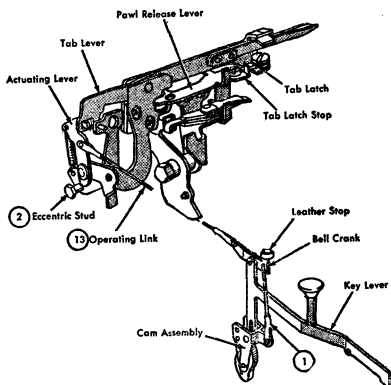

Figure 22. Tabular Mechanism
5. **TKO LINK.** Before adjusting the TKO link, the height of the tab lever should be properly set to clear the margin rack by .010" to .015" as outlined in the *Tabular Mechanism* section, adjustment 2 (Figure 22). Adjust the TKO link so that, with the clutch locked, the left margin stop will con-
The carriage begins to move to the left under tension of the main spring until the tip of the tab lever strikes a set tab stop. This forces the tab lever over to the left and allows it to become disengaged from the tab latch. Now the tab lever begins to restore to its rest position, allowing the pawls to re-enter the escapement rack. The rebound check lever moves into place to the right of the set tab stop as the tab lever is forced to the left. It is now in a position to block any movement of the carriage toward the right as the carriage tends to rebound. When the tab lever restores to rest, it moves the rebound check lever to rest (Figure 22).
1. CAM CLEARANCE. Adjust cam clearance to the power roll so that the cam release lever will drop behind the cam lug when tripped with the power off. Be sure the leather stop of the tab bell crank is touching the underneath side of the key lever spring support when this adjustment is observed (Figure 22).
2. TAB LEVER HEIGHT. Adjust height so that it will just clear the under side of the margin rack by .010" to .015". This adjustment is made by means of the eccentric stud on which the tab actuating lever rests (Figure 22).
13. TAB OPERATING LINK. Adjust so that when the cam is on its high point, the tab lever will over-throw the tab latch by .010" to .020" to insure that the latch will move into place (Figure 22).